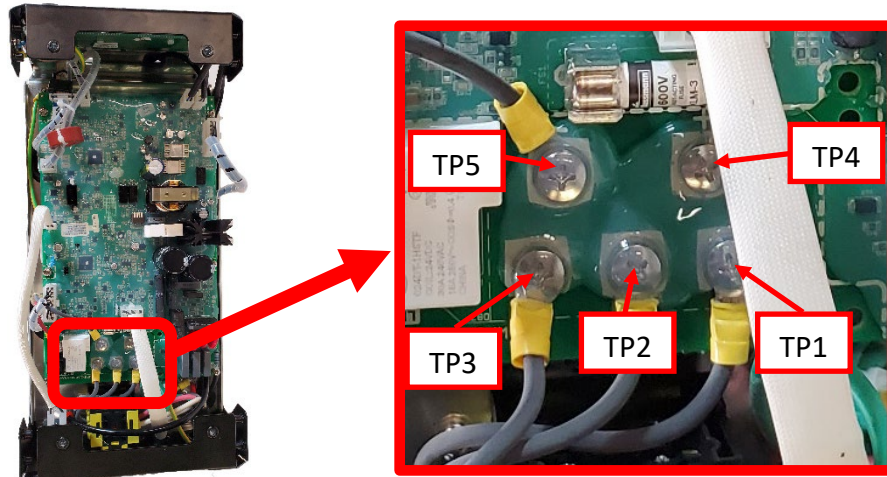

Figure F.2
- A.2. Perform the static measurements in Test Table 1, refer to Figure F.2 for test point locations.